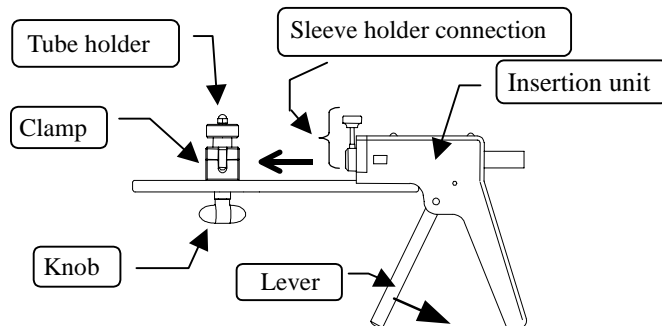
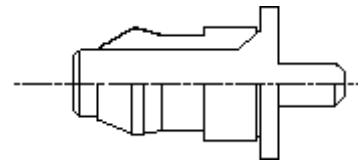

Figure 15. Parts designation of JT-C3
Figure 16. Setting the sleeve
- Install to insertion tool JT-C3 the sleeve holder and then the sleeve as shown in Figure 15 and Figure 16. (For applicable sleeve holders, refer to Table 9).